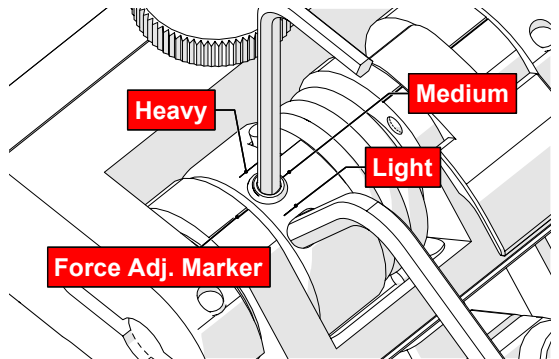

Fig. 117 - Choose desired tension
6. Gently apply pressure on the long leg of the 3 mm hex wrench until the force adjustment marker lines up with the desired spring tension. While keeping the markers in line, tighten the force adjustment screw (Fig. 117).